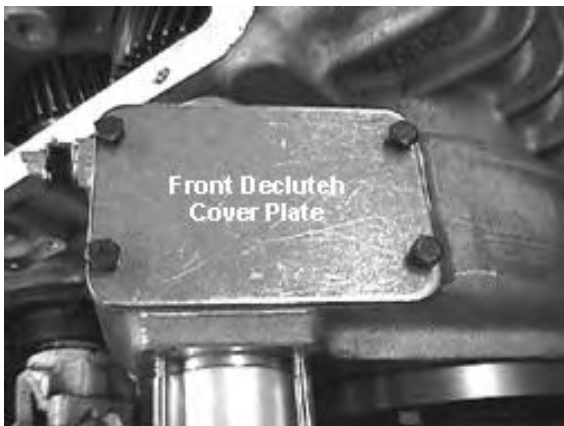

Fig. 85
44. Install front declutch cover plate using Loctite #242 on bolt threads. Torque to spec. See Fig. 85.